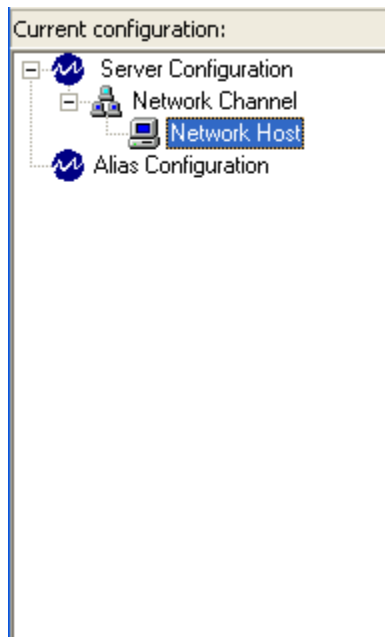

Figure 33 - New Network Host Object
8. Click on the **OK** button. The object is created and will appear as a child of the **Network Channel** item as shown in Figure 33.